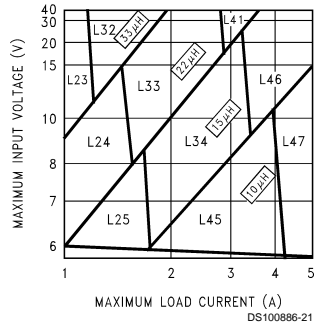
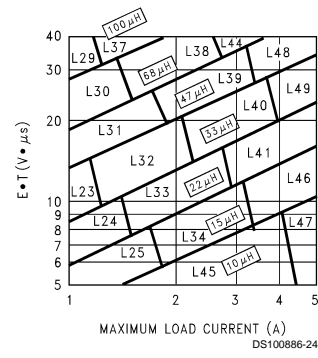

FIGURE 3. LM2678-3.3
FIGURE 6. LM2678-ADJ
**Step 3:** Determine the inductor required by using one of the four nomographs, *Figure 3* through *Figure 6*. Table 1 provides a specific manufacturer and part number for the inductor.
**Step 5:** Determine an input capacitor from Table 4 for fixed output voltage applications. Use Table 2 to find the specific capacitor type. For adjustable output circuits select a capacitor from Table 2 with a sufficient working voltage (WV) rating greater than  $V_{in\ max}$ , and an rms current rating greater than one-half the maximum load current (2 or more capacitors in parallel may be required).
**Step 3:** Use the nomograph for the 3.3V device, *Figure 3*. The intersection of the 16V horizontal line ( $V_{in\ max}$ ) and the 4A vertical line ( $I_{load\ max}$ ) indicates that L46, a 15 $\mu$ H inductor, is required.
**Step 3:** To use the nomograph for the adjustable device, Figure 6, requires a calculation of the inductor Volt•microsecond constant (E•T expressed in V•μs) from the following formula:
Using Figure 6, the intersection of 27V•μs horizontally and the 3.5A vertical line (Iload max) indicates that L48, a 47μH inductor, or L49, a 33μH inductor could be used. Either inductor will be suitable, but for this example selecting the larger inductance will result in lower ripple current.
**Important Note:** When using the adjustable device in low voltage applications (less than 3V output), if the nomograph, Figure 6, selects an inductance of 22μH or less, Table 6 does not provide an output capacitor solution. With these conditions the number of output capacitors required for stable operation becomes impractical. It is recommended to use either a 33μH or 47μH inductor and the output capacitors from Table 6.